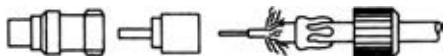

FIG. 41. Wiring of coaxial connector
**Coaxial connector:** A specific type of plug and socket designed to maintain the geometry and screening properties of coaxial cable. Often used on radio and television aerials. See Fig. 41 for wiring details.